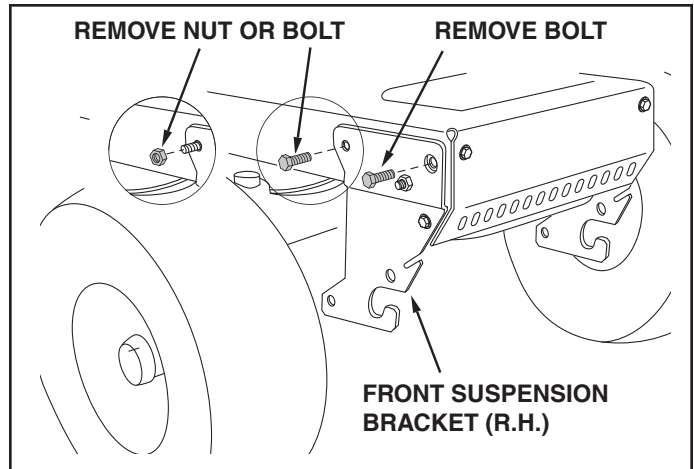

FIGURE 1 RIGHT SIDE VIEW
- the nut from the carriage bolt at the top rear corner of the bracket, leaving the carriage bolt in the tractor frame. See figure 1.